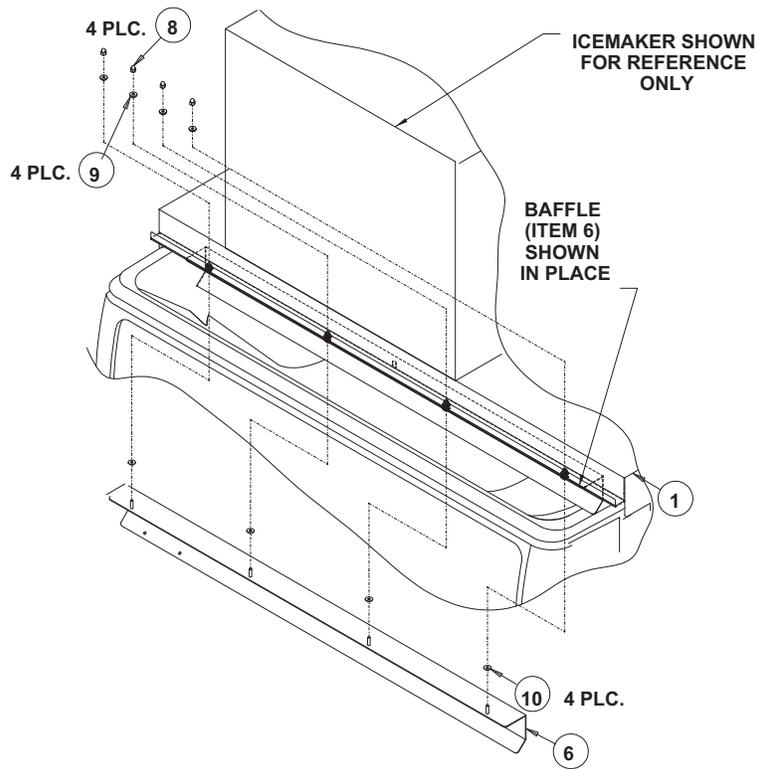

Figure 2. ED/DF300 Kit Ice Baffle Installation
2. Remove the two (2) screws from each side of the dispenser cabinet and the plastic hopper covers (2) that were shipped with the unit.
3. Place the adapter lid on the unit and use the four (4) screws that were removed to fasten the lid in place.
4. Install the ice baffle on the lid assembly as shown in Figure 2.